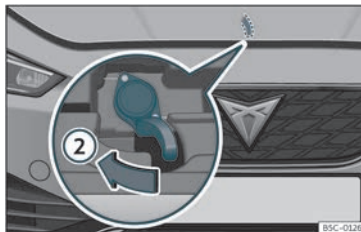

Fig. 213 Lever under the bonnet.
- To lift the bonnet, press towards the left on the lever located under the bonnet, in the centre»» **Fig. 213** ②. The arrester hooks are released.